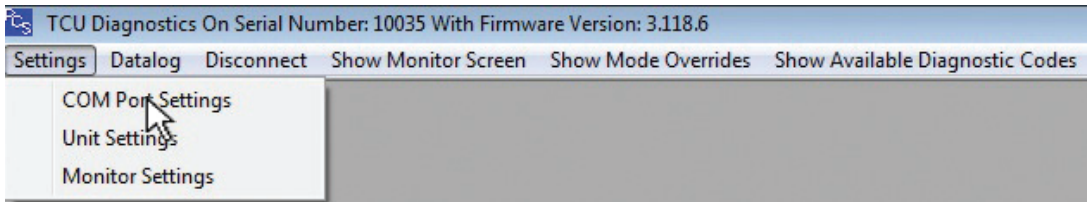

Figure 1
1. Select "Settings" from the menu bar then select "COM Port Settings" from the drop down menu. **Reference Figure 1.**